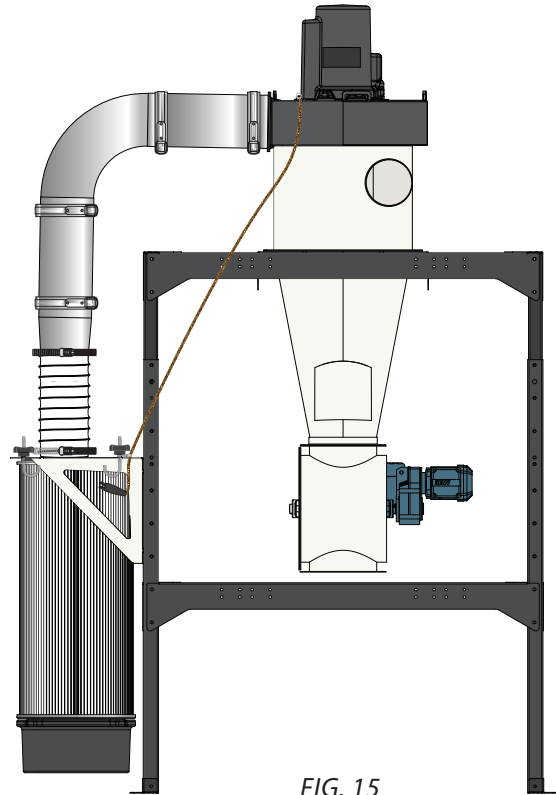

FIG. 15
Assemble the Airlock (Q) [FIG 15]. Refer to the Owner's Manual included: